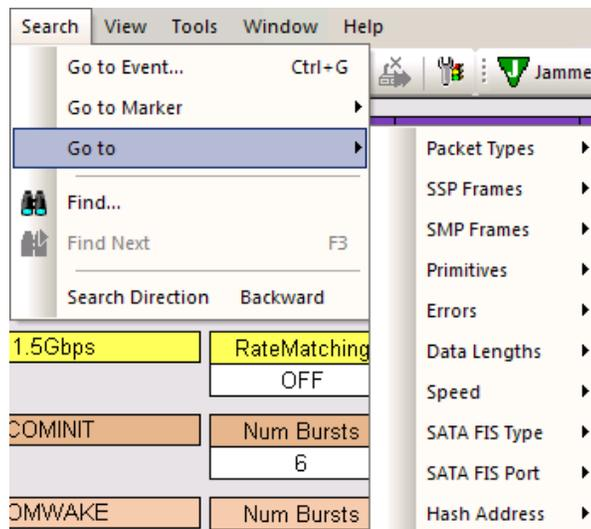

Figure 5.6: Trainer Search Menu
**Go to:** Packet Types, SSP Frames, SMP Frames, Primitives, Errors, Data Lengths, Speed, SATA FIS Type, SATA FIS Port, or Hash Address (Source or Destination). See Figure 5.6 on page 295.